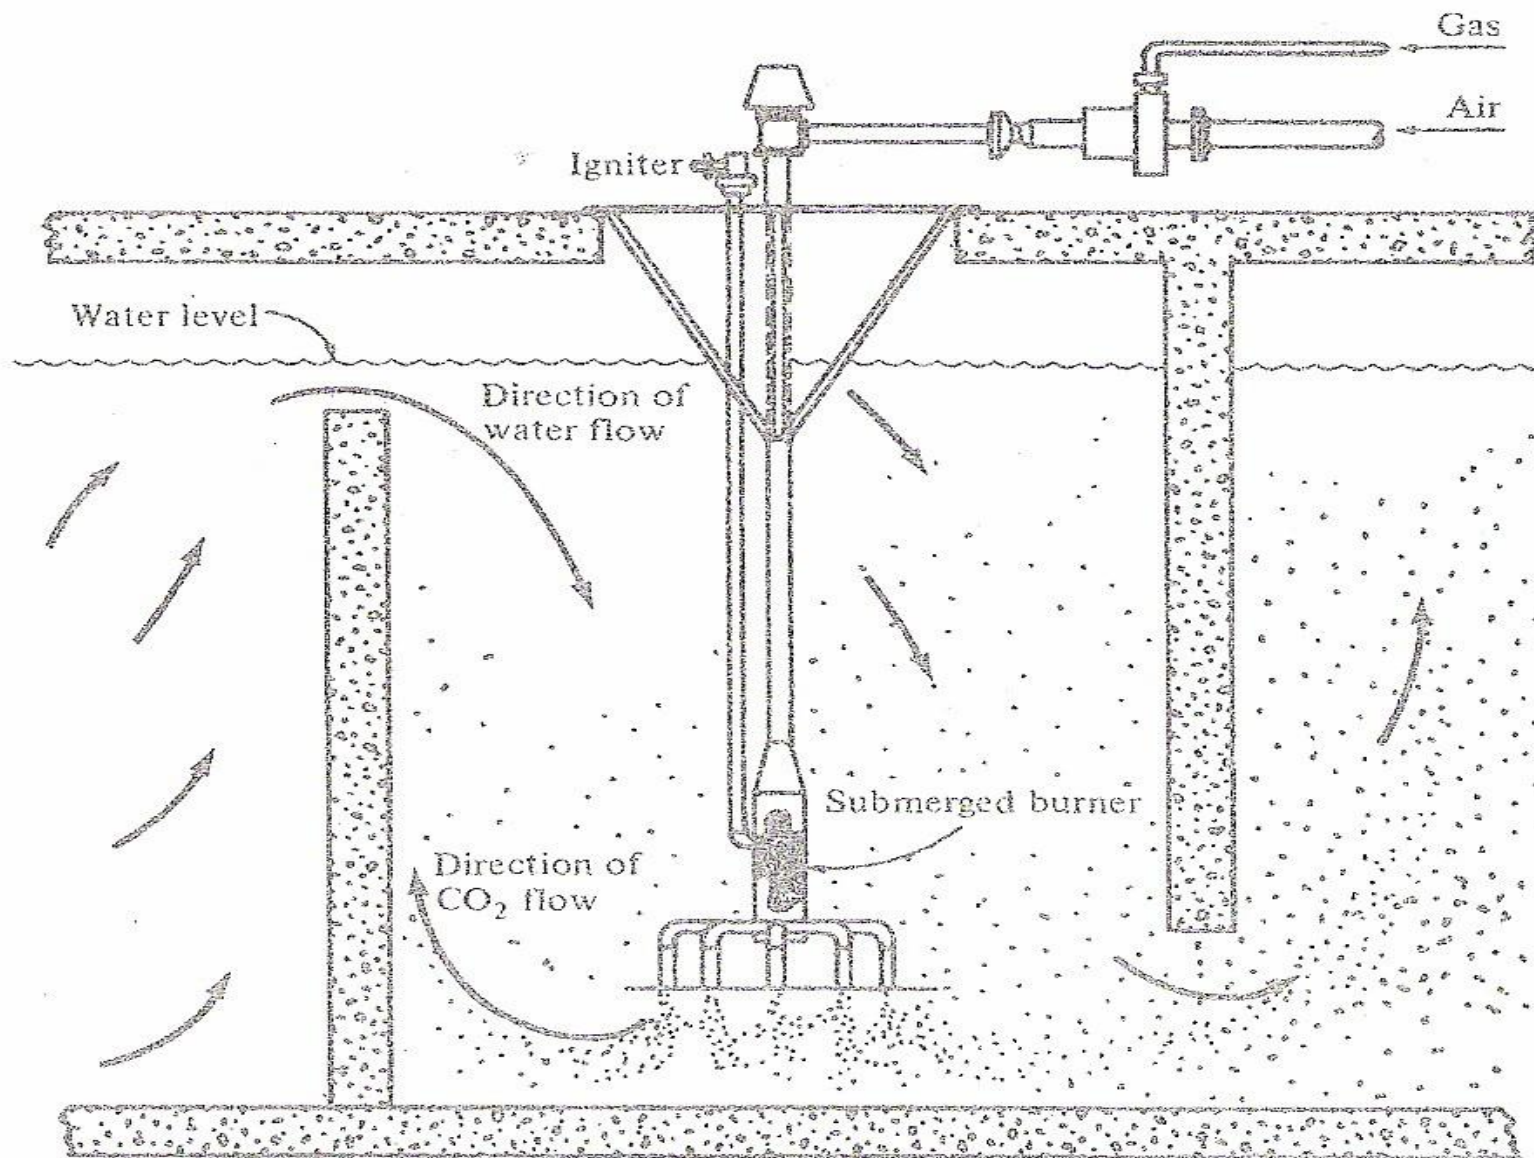

Fig. 3.4 Submerged burner for recarbonation
- **Recarbonation** is implemented after the second stage Flocculator /sedimentation to reduce the pH in the range of 8.5-9.5 to stabilize the water by converting some of the Ca CO_3 and Mg (OH)_2 residual to bicarbonate :
- **Recarbonation** is achieved in a tank in which carbon dioxide is injected either in liquid form or in the gaseous form generated in the tank using a special burner as Shown in Figure 3.4.